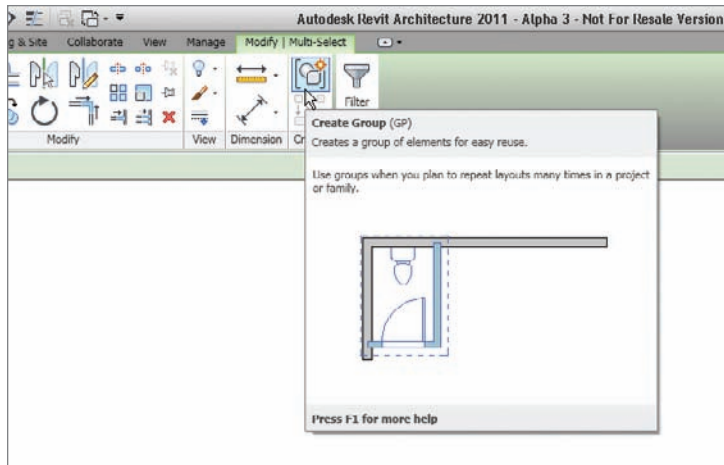

FIGURE 12.72 The Create Group button on the Create tab
2. On the Create tab, click the Create Group button, as shown in Figure 12.72.